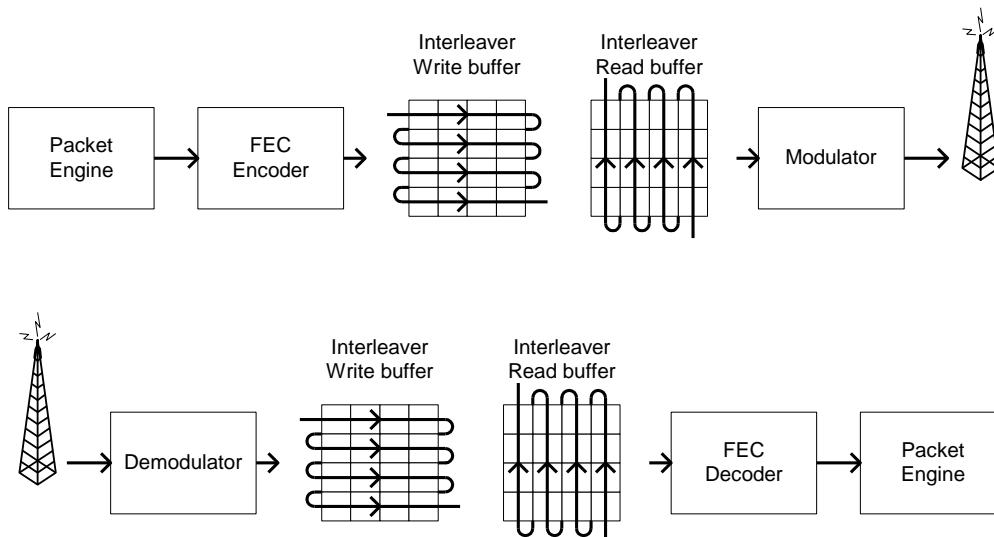

Figure 24: General Principle of Matrix Interleaving
**CC1101** employs matrix interleaving, which is illustrated in Figure 24. The on-chip interleaving and de-interleaving buffers are 4 x 4 matrices. In the transmitter, the data bits from the rate  $\frac{1}{2}$  convolutional coder are written into the rows of the matrix, whereas the bit sequence to be transmitted is read from the columns of the matrix. Conversely, in the receiver, the received symbols are written into the rows of the matrix, whereas the data